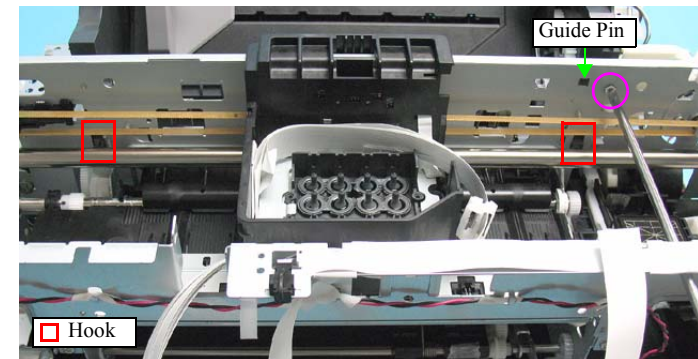
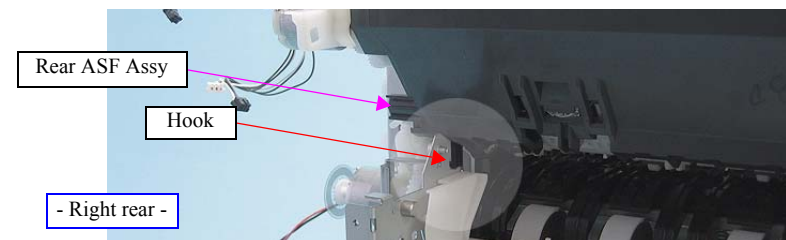

Figure 4-146. Removing the Rear ASF Assy (5)
Figure 4-147. Removing the Rear ASF Assy (6)
- Insert the guide pin and three hooks shown in Figure.4-146 and Figure.4-147 into the positioning holes on the Main Frame.